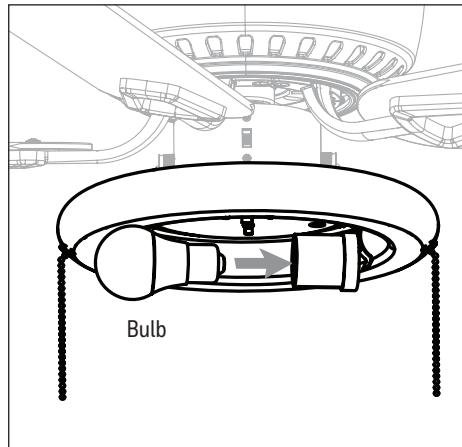

Figure 4.8
8. Install the E26-base LED bulb into the socket of the light kit. **Important:** Make sure you allow the bulb and light kit to cool before you replace the bulb (Figure 4.8).